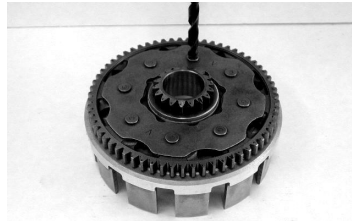

Figure 1
- Grind or center punch and drill the heads of the rivets off of the back of the basket to remove the stock retainer plate (see figure 1 and 2)